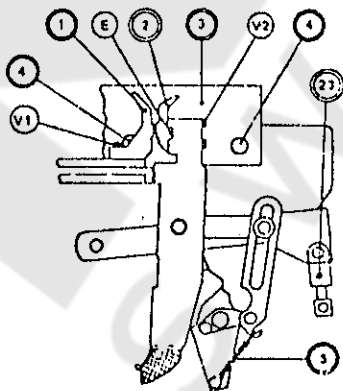

Fig. 26
B. **Arcing Contacts and Insulating Strips (Fig. 26).**
1. **Arcing contacts.** With breaker in open position, loosen retaining bolts V1 and remove contact by sliding forward. Replace with new contact leaving retaining bolt V1 loose. Close breaker and loosen bolt V2 (two per contact) approximately 1.5 mm (0.059 inch) or until contact clears locating boss E, then remove by lifting upwards. Replace with new contact, checking to see that contact seats in locating boss before tightening bolt V2. With 0.9 mm (0.035 inch) feeler gauge, position contact (1) and tighten bolt V1.